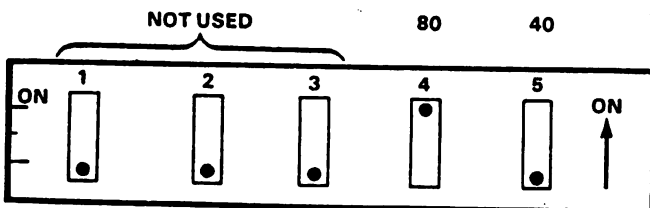

Figure C-4 Device Address /80
- c. To set the address at /80 -- Place the 80 switch in the ON position; place all other switches in the OFF position. Refer to Figure C-4. An address of /80 indicates that there are three terminal processors. The third processor, which must be set at /80, controls Terminals 9-12.